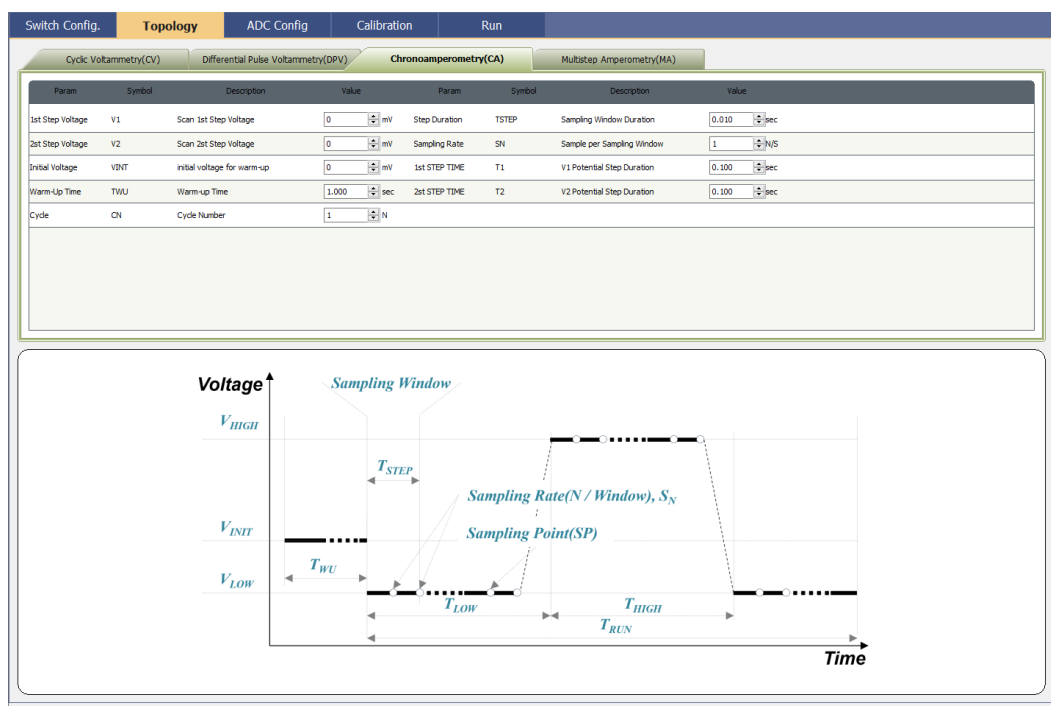

Figure 9 Topology CA
- CA Selection: When CA is selected in the Topology Tab, the interface updates as shown in Figure 9. Refer to Table 3 for specific CA parameters.